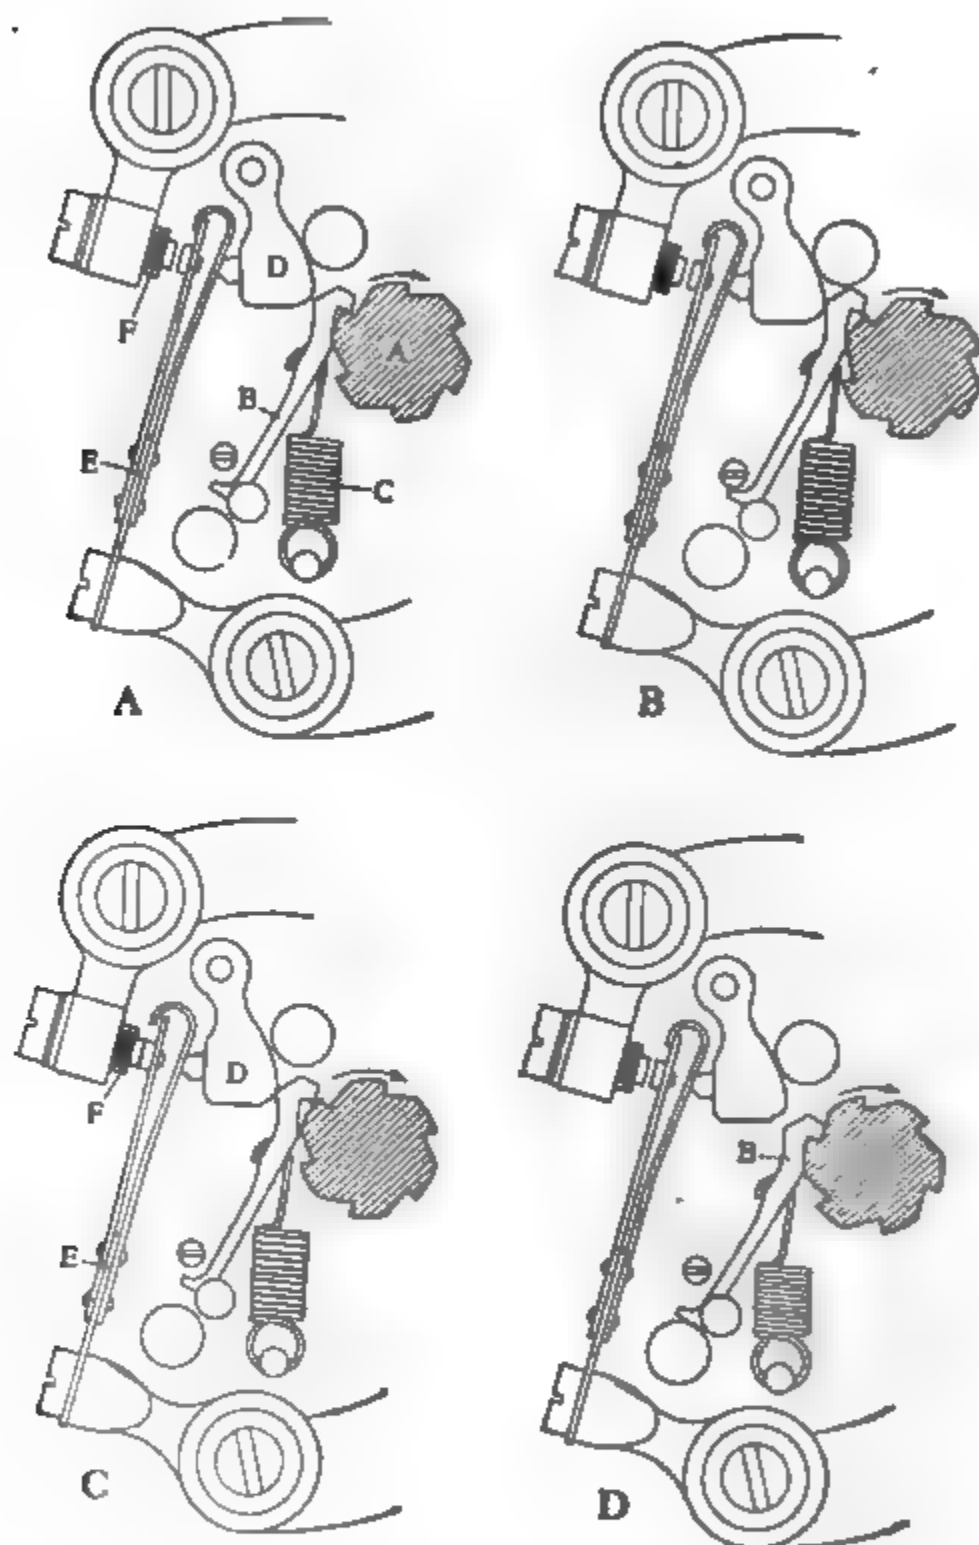

Fig 120. Diagram Showing Operation of Atwater-Kent Interrupter
*Operation of "Unisparker".* The ratchet *A*, Fig. 120, has as many notches as there are cylinders to be fired. It is mounted on the central vertical shaft of the device which also carries a distributor, and in this combined form is known as a "Unisparker". On four-cycle engines it is driven at half crankshaft speed, and at crankshaft speed on two-cycle engines (motor boats). The ratchet *A* engages the lifter *B*, and, as *A* rotates, its teeth or notches successively tend to draw *B* with them, against the tension of the spring *C*. In doing
tion of the contacts as in the case of a magneto interrupter. and *D*, of Fig. 120, show the successive movements of the parts in a single phase. In *A*, a notch of the ratchet has engaged *B* drawing it against the tension of the spring *C*. In the second *B*, the hook is released. In *C*, the lifter is riding back over rounded portion of the ratchet and striking the hammer *D*, in turn pushes *E* for a brief instant against *F*. The return of the position shown in sketch *D* is so rapid that the eye cannot see the movement of the parts *D* and *E*, which to all appearances is stationary.